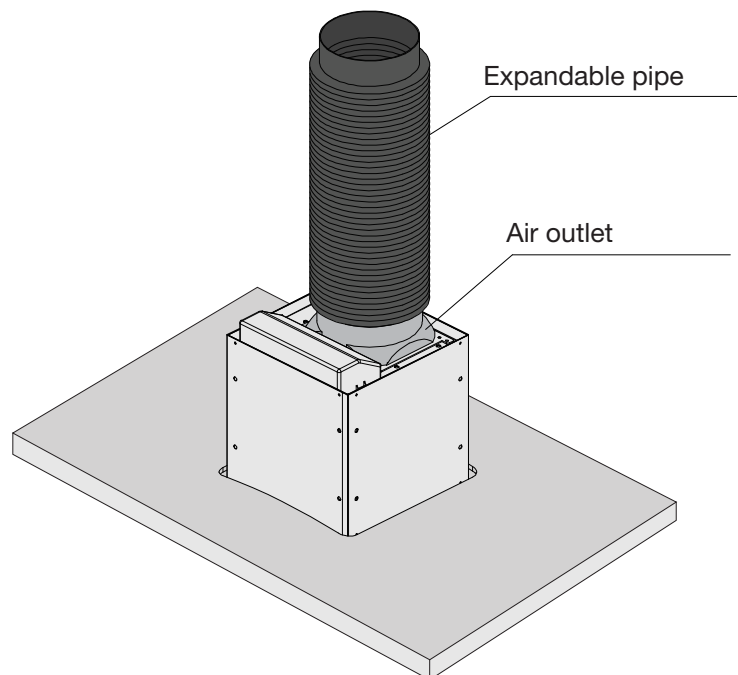

Figure 4
- Fix air outlet onto the vent of hood's body, connect expandable pipe to air outlet. See Figure 4.